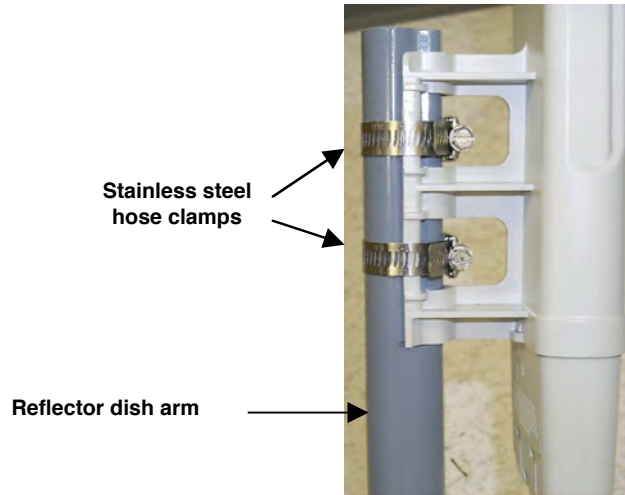

Figure 141: BH attachment to reflector arm
7. Attach the BHM to the arm of the Canopy Passive Reflector dish assembly as shown in Figure 141.